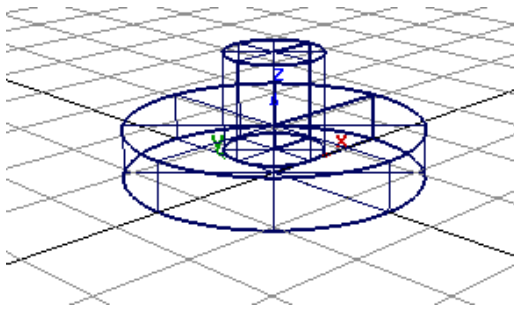

Figure 2-103 Stand created for the model
2. Enter **0, 0, 75** in the promptline and press ENTER; the stand of the model is created, as shown in Figure 2-103.